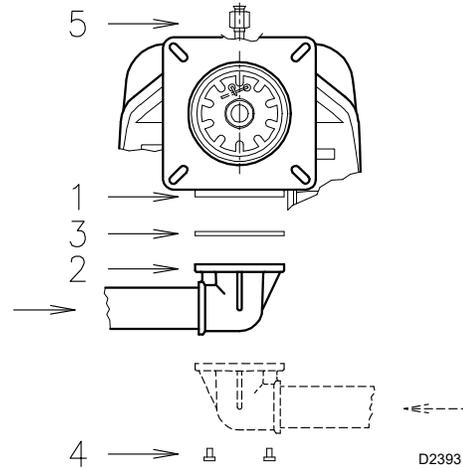

Fig. 17
- Connect gas train and pilot train as shown in Fig. 17, page 20.
The main gas train must be connected to the gas attachment 1)(Fig. 17), using flange 2), gasket 3) and screws 4) supplied with the burner.